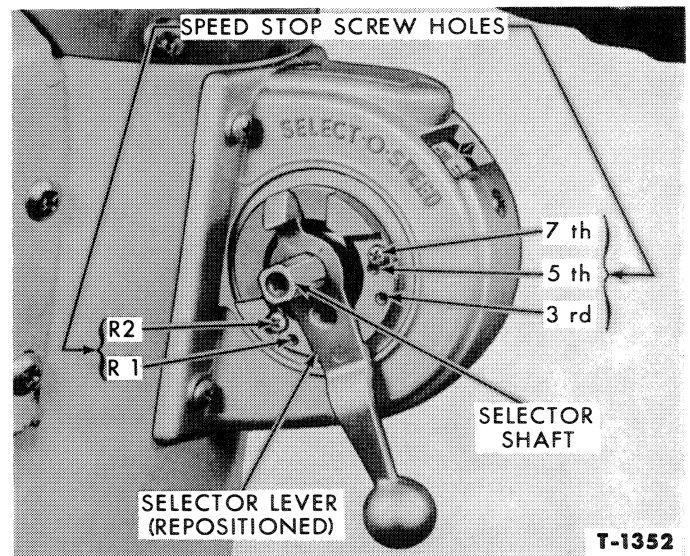

Figure 73—Repositioning the Selector Lever
2. Move the control lever to the left end, as shown in Figure 73, and secure with the notched cover and spring.
Some operations will require a limited range of transmission speed ratios and often they will alternate between forward and reverse speeds. Therefore, five tapped holes have been incorporated in both sides of the selector housing which accommodate two stop screws, as shown in Figure 73. The screws can be placed in one of three specific holes which will stop the selector lever at third, fifth or seventh speed, and
in one of two other holes, to stop the lever in either R_1 or R_2 , as shown in Figure 73. When the use of these stops is desired, they should be installed on the control lever side of the selector assembly. When they are not desired, they should be carried on the tractor by installing them on the side opposite the control lever. When shipped from the factory, the control lever is installed on the right side of the selector assembly and the stop screws are carried under the selector shaft left cover.